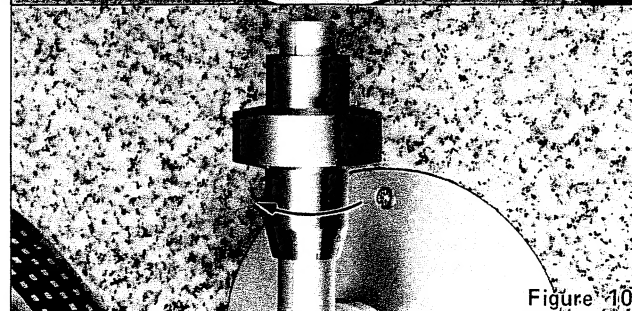

Figure 10
6. Turn the sub-weight in the direction of arrow shown in figure 10, and align the value of proper stylus pressure for the phono-cartridge with line mark.